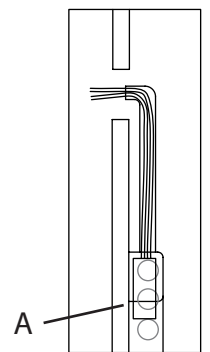

Fig. 9
2. The LED driver (A) must be installed in a remote and accessible location near the fixture in accordance with local electrical code (Fig. 9). Make appropriate electrical connections using wire nuts:
- a. Connect the LED driver's (A) live wire to the live branch circuit conductor.
- c. Connect the LED driver's positive (+) output wire to the required length of red wire (not included) to reach the Connector (B).
3. Drill a $\frac{3}{4}$ " hole (J) in the wall where the Connector (B) is to be installed.
4. Using included Allen key (K), loosen set screws (H) and remove Connector (B) from mounting bracket (C).
5. Pull low voltage wires (F) through off-center hole (G) in mounting bracket (C).